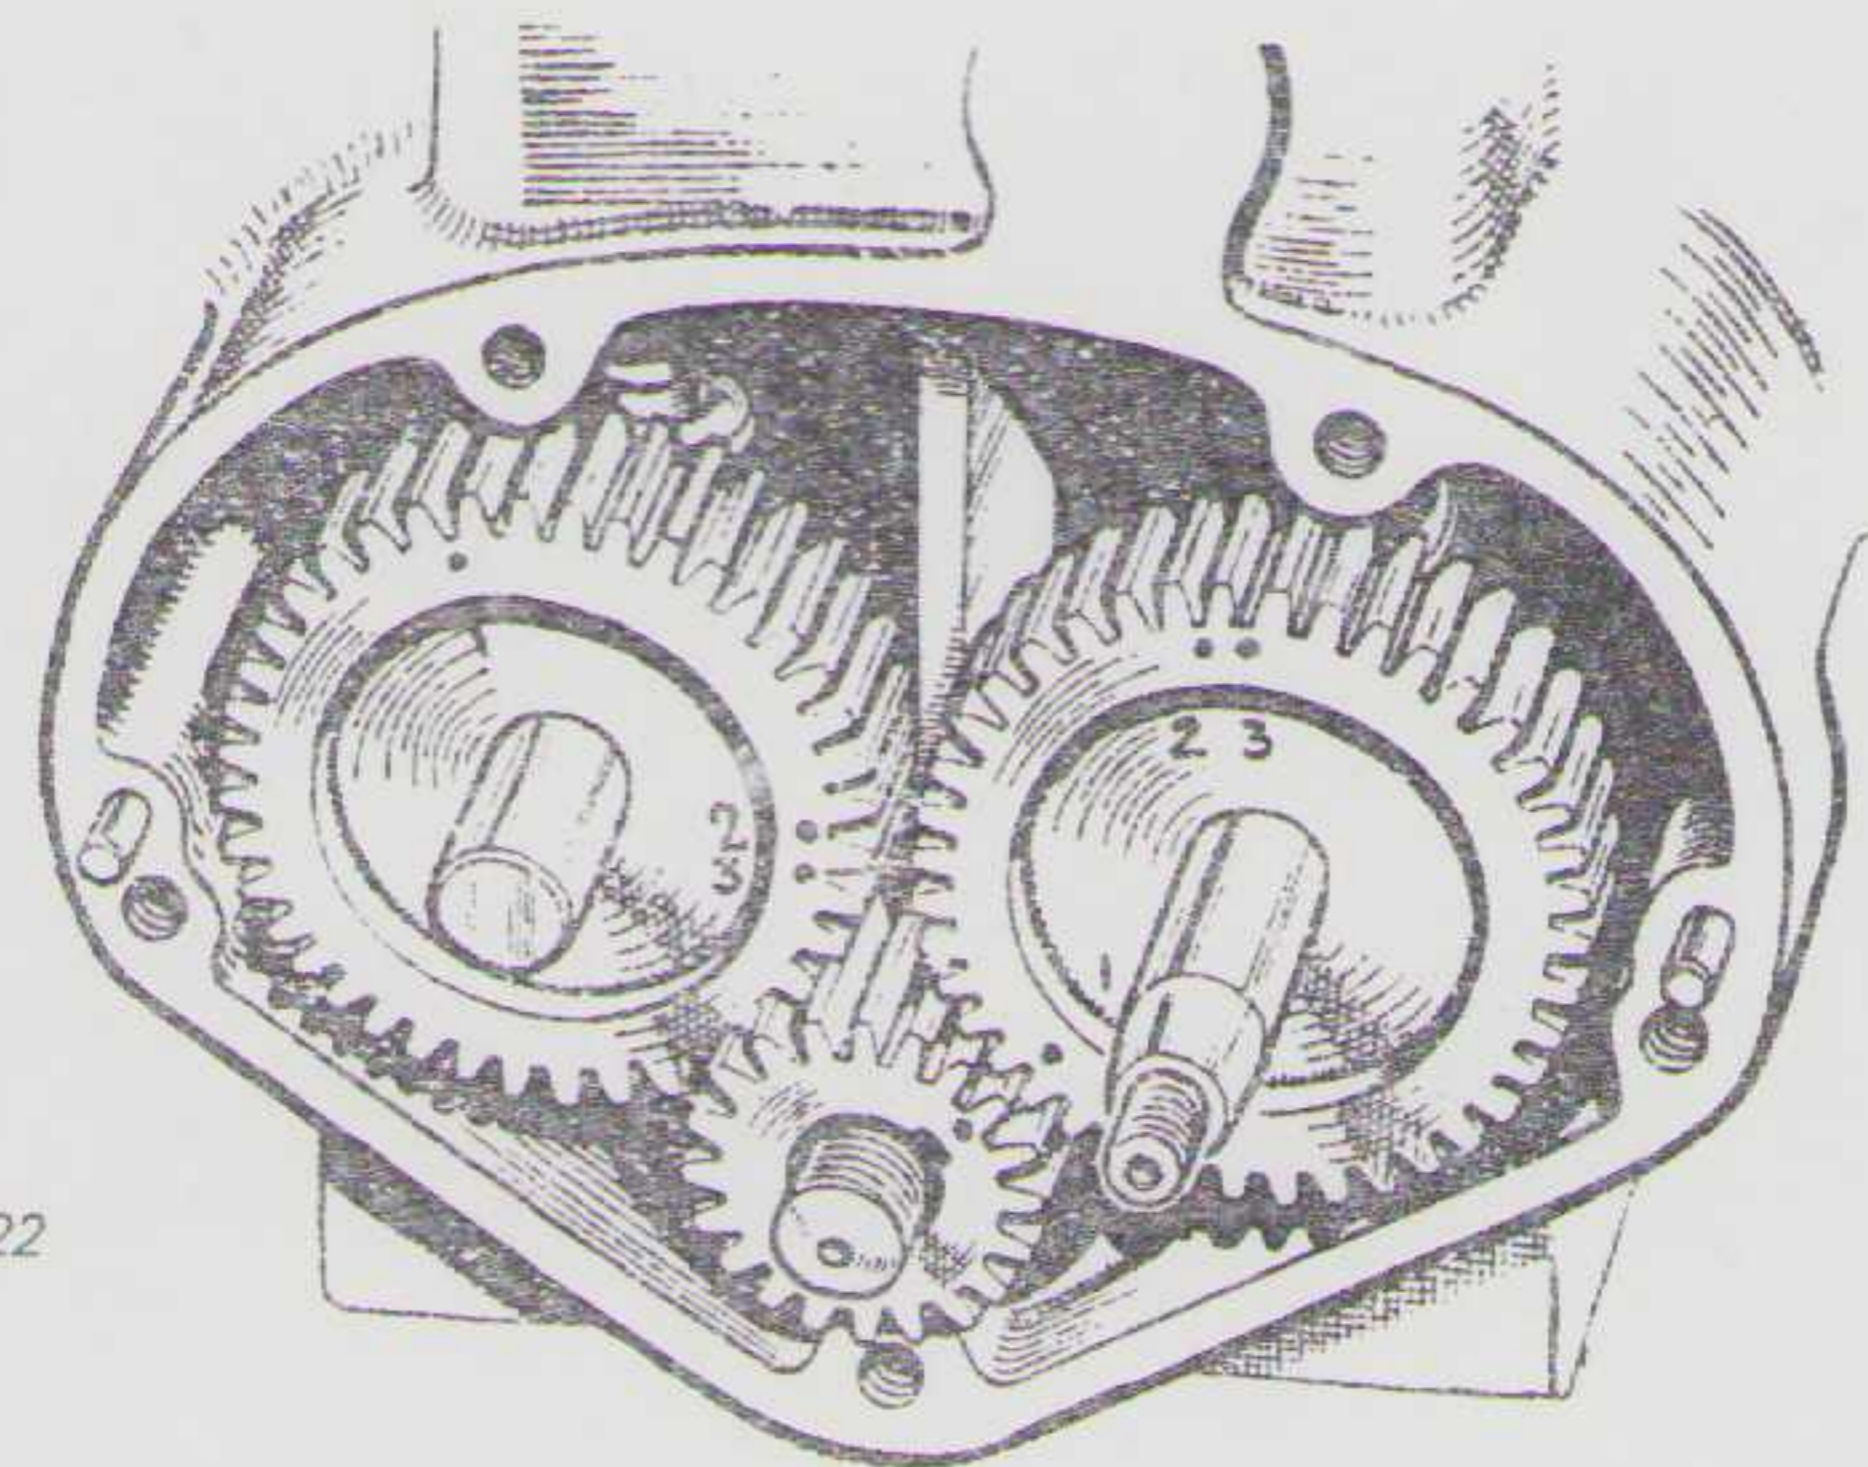

FIG 22
1954-55. High-lift cams (HL). Cams marked 1, 2 and 3 (see Fig. 22). For 350 cc models use No. 3 for inlet; No. 2 for exhaust. For 500 cc models use No. 2 for both valves. When fitting camshafts that have neither a slot nor keyway for the long shaft, use a No. 1 marking for the exhaust cam.